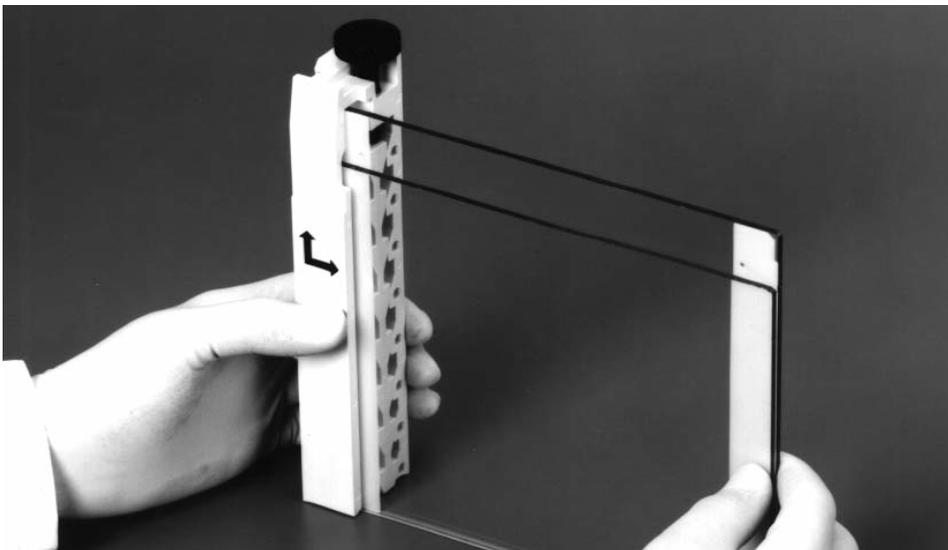

Fig. 4.11. Attaching the clamps to the glass plate assembly.
4. Grasp the gel sandwich firmly. Guide the left and right clamps onto the sandwich so that the long and short plates fit the appropriate notches in the clamp. Tighten the screws enough to hold the plates in place (Figure 4.11).